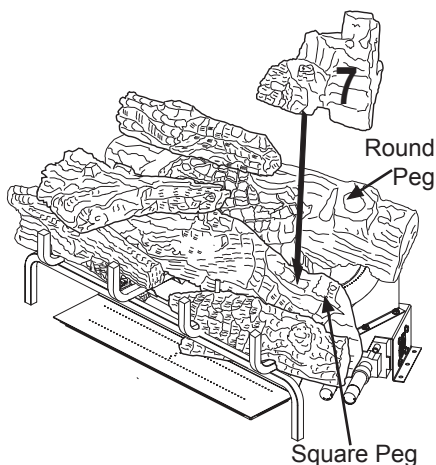

Figure 43 - Installing Log # 7
7. Place the right rear chunk log (#7) on top of the middle log (#2) and rear log (#1) as shown in Figure 43. Match the round peg on the top of the rear log (#1) with the round hole on the bottom of the right rear chunk (#7) log and square peg on the top of the middle log (#2) with the square hole on the bottom of the right rear chunk log (#7).